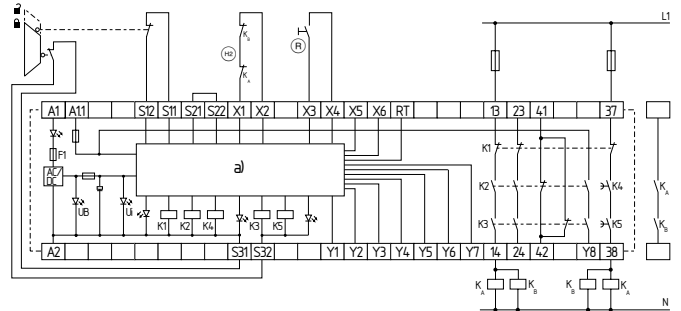

Fig. 6
Dual-channel control, shown for a guard door monitor with two position switches where one has a positive break contact; with external reset button (R) (Fig. 6)